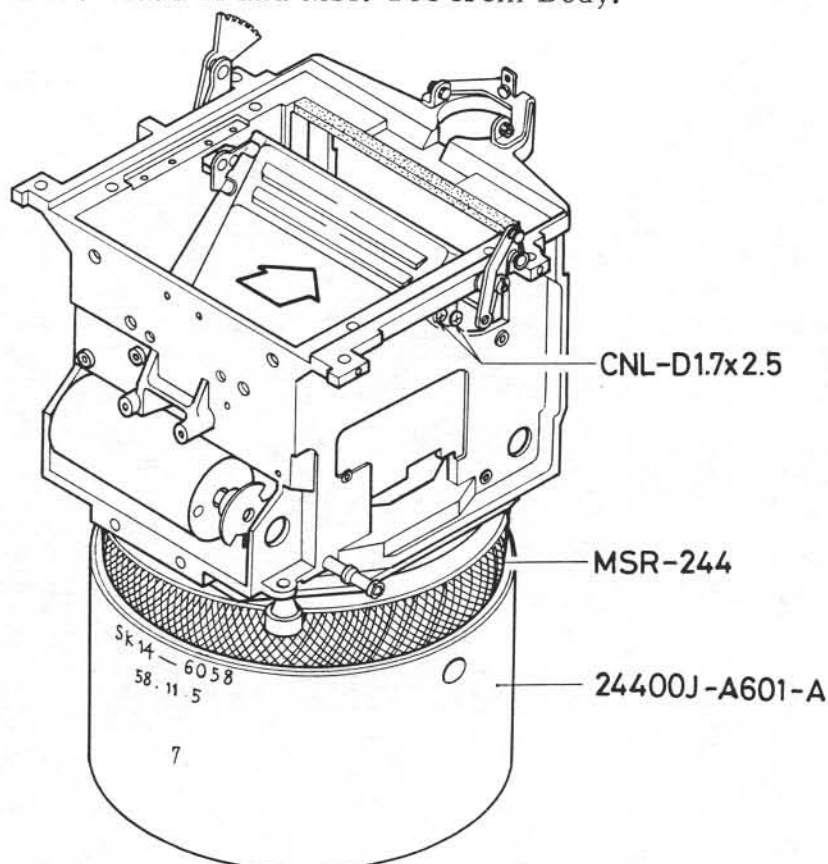

Fig. 12
- 8-2 Mount MSR-244 on Body and then mount 24400J-A601-A on MSR-244. Refer to Fig. 12.
- 8-3 Tighten the four screws (CNL-D1.7x2.5) firmly while pushing Mirror seat with a finger in the direction arrow as shown in Fig. 12.